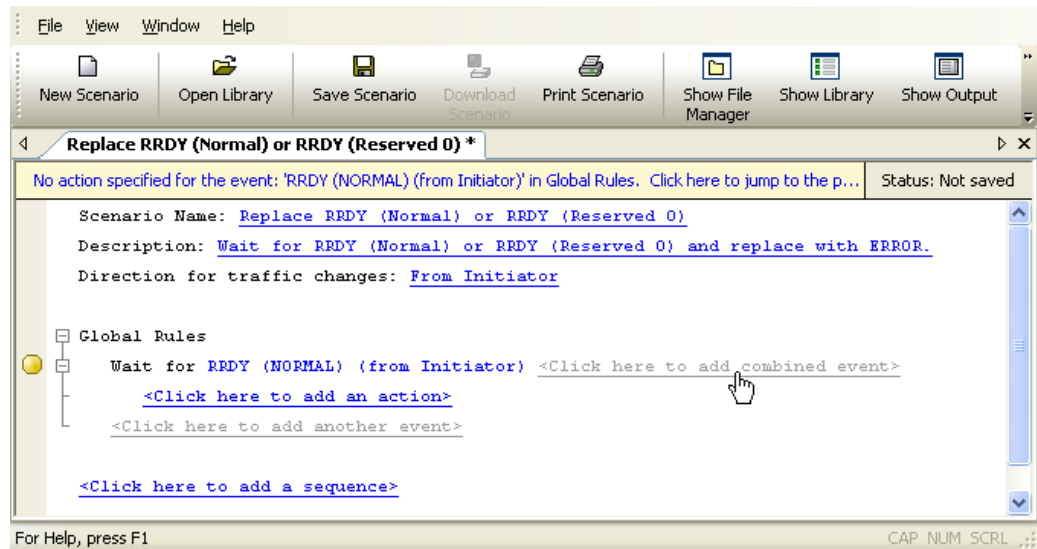

Figure 54 Example 3: Entering the Second Event
Step 4 Click on the **add combined event** prompt to add a second event (Figure 54).